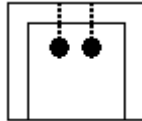

Figure 2
- The original grommet must be modified for use with the Ignitor. Cut from above each wire down into the grommet, making two parallel cuts. (See figure 2).